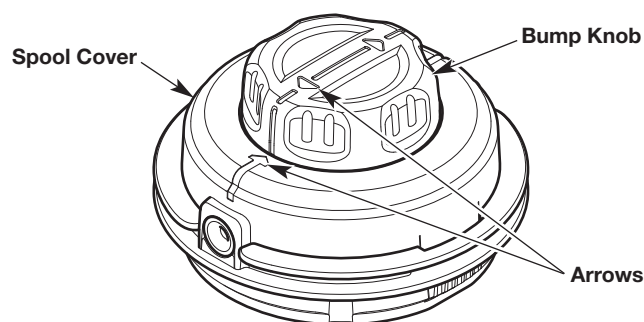

Fig. 20
- Turn the bump knob to align the arrows on the bump knob with the arrows on the spool cover (Fig. 20).